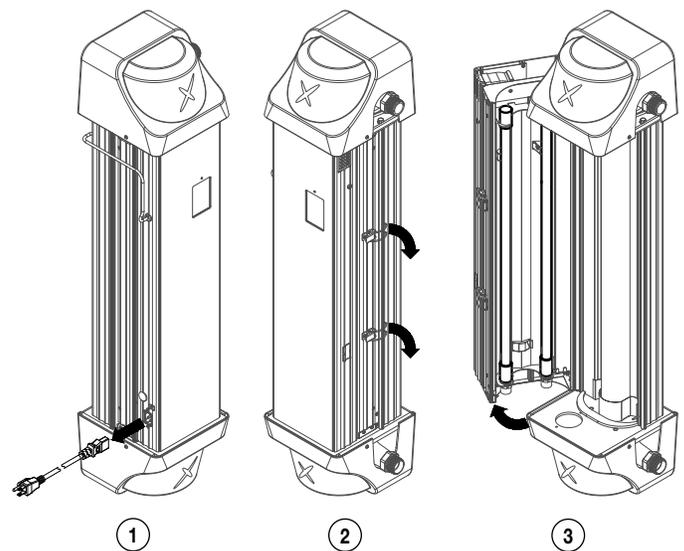

Figure 7-2
2. See Figure 7-2. Open the UV Chamber by undoing the over-the-center latch. Note where the latch wire engages the extrusion feature – it must be re-latched in same manner.
3. Examine the quartz sleeve both inside and out – See Figure 7.2. If it is clean, no disassembly is required and the unit can be closed. Restart the unit by plugging it in.